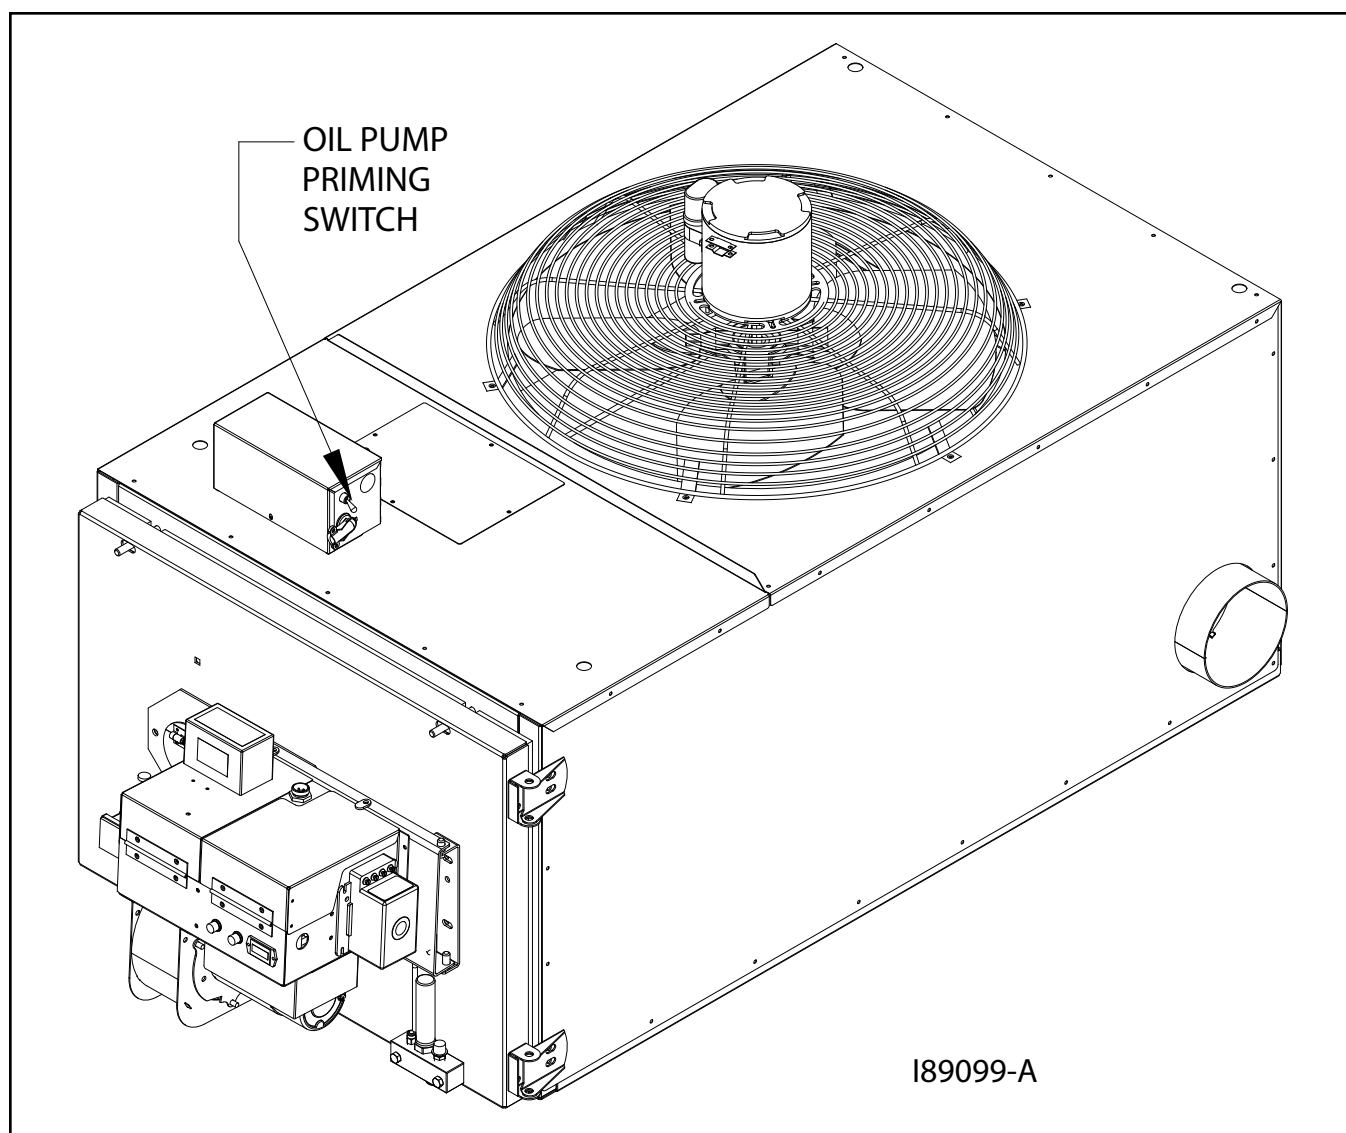

Figure 5B - Locating the Pump Priming Switch
- a. Refer to Figure 5B to locate the priming switch.
- b. Turn the priming switch to the prime (UP) position. The pump should immediately start running.